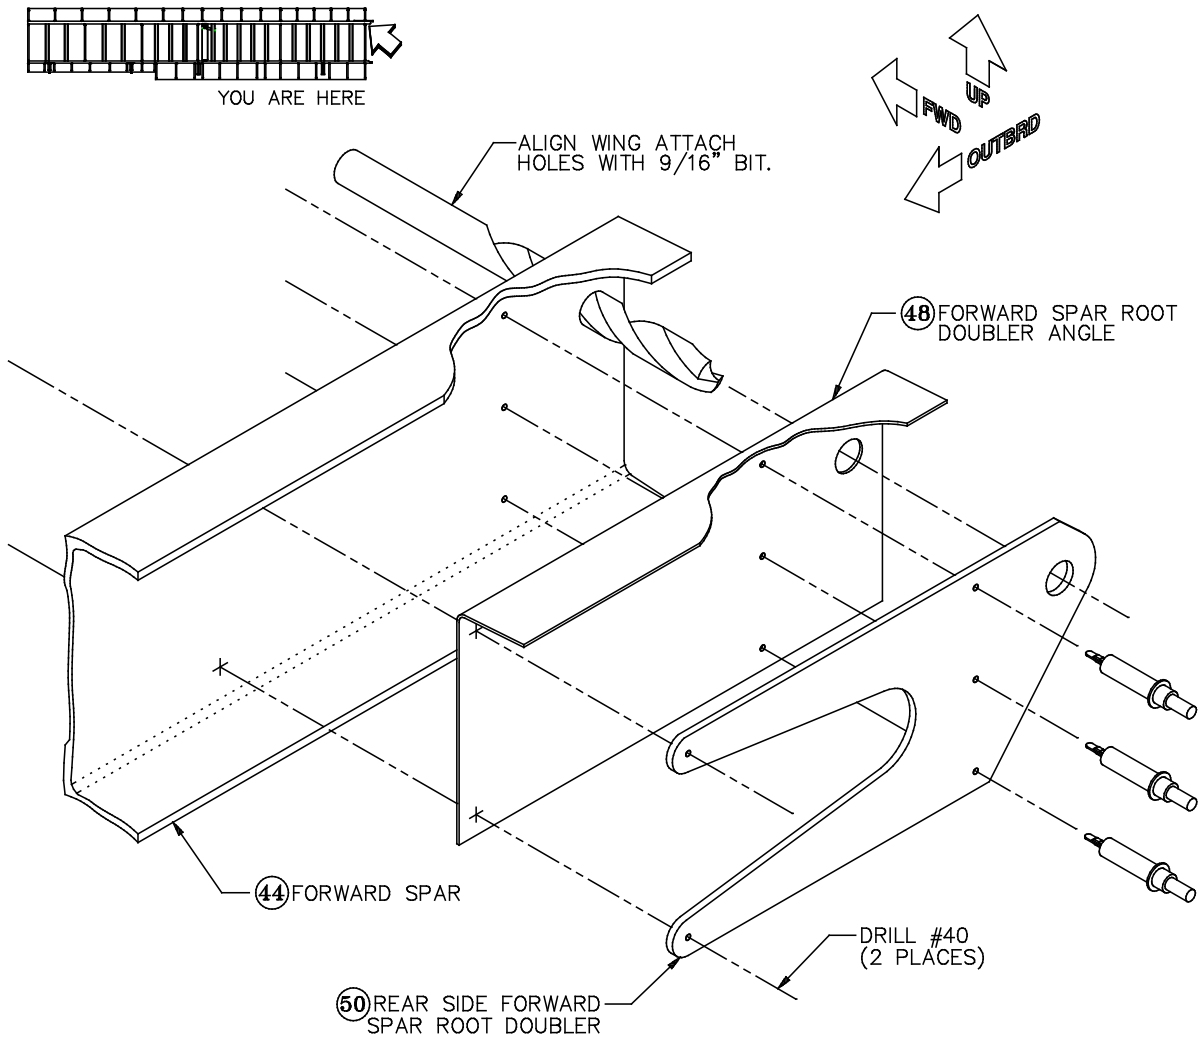

Figure 9: Rear-Side Forward Spar Root Doubler
B) Use the 9/16" drill bit to align the wing attach hole in the **rear-side forward spar root doubler** [50] with the wing attach holes in the forward spar/doubler angle assembly, as shown in Figure 9. Use the three #40 holes drilled in Step A to Cleco the rear-side forward spar root doubler to the assembly.
Use the two holes near the outboard end of the rear-side forward spar doubler to drill #40 holes through the spar/doubler angle assembly, as shown in Figure 9.